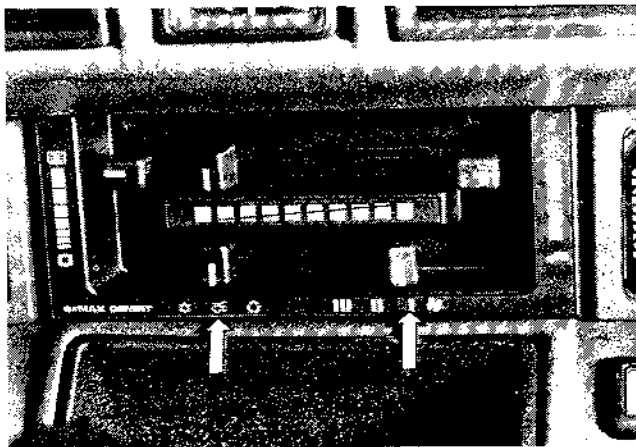

Fig.19
- 11 Before reconnecting the vacuum pipe to the ventilation system, set the two lower ventilation controls to 'Fresh Air' and 'Fan On' (see Fig. 19).